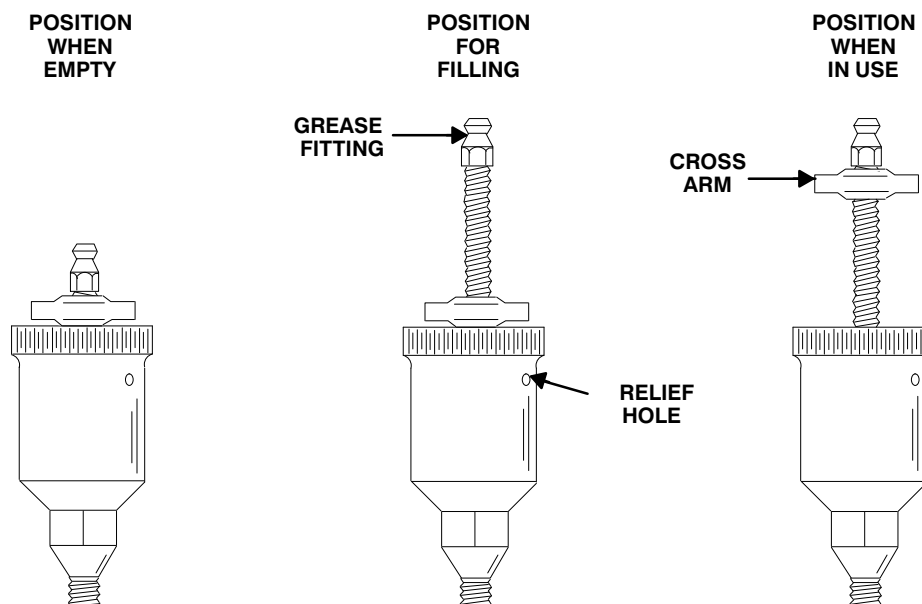

Figure 4. Automatic Lubricating Grease Cup
Fill the grease cup (43) through the grease fitting with No. 2 lithium base grease until grease escapes from the relief hole. Turn the grease cup arm counterclockwise until it is at the top of the stem; this will release the spring to apply grease to the seal (see Figure 4).